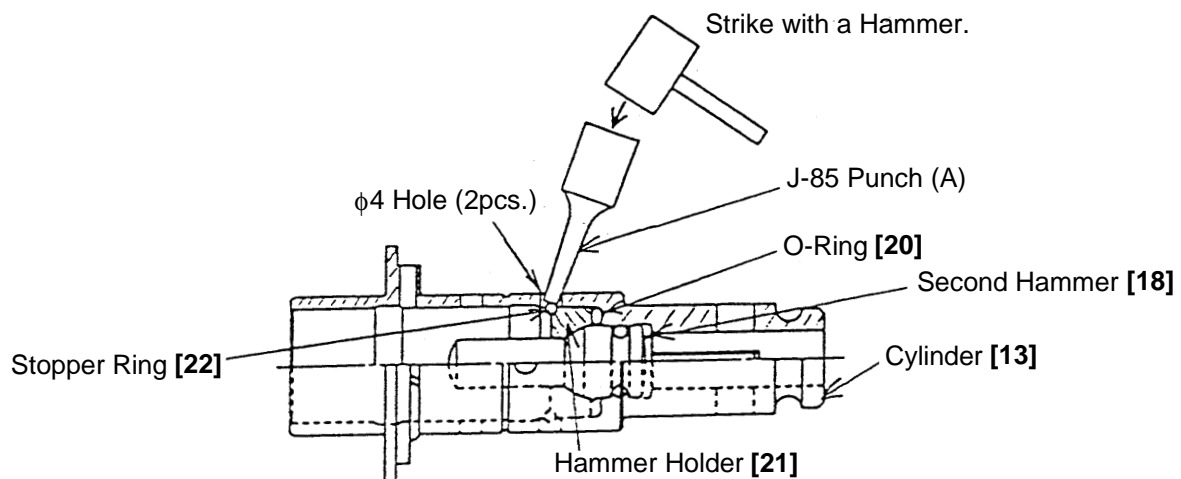

Fig. 4
(6) Cylinder and Second Hammer:
As illustrated in Fig. 4, use a J-85 Punch (A) (Special Repair Tool, Code No. 970826) to strike the Stopper Ring [22] through the holes ($\phi 4$ mm) provided on the Cylinder [13] so that the Stopper Ring is disconnected from the groove inside the Cylinder. The Hammer Holder [21], Second Hammer [18], O-Ring [20] can then be removed from the Cylinder [13].